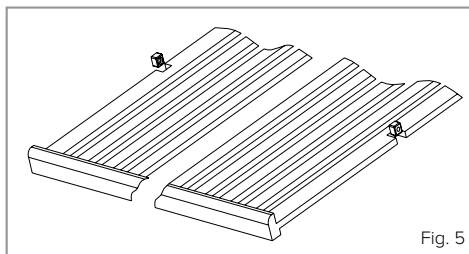

Fig. 5
- To remove a shelf from the wine cooler, first remove all bottles from the shelf, then pull the shelf forwards until the groove on either side of the shelf is level with the plastic peg on either side of the cabinet (as shown in fig 5). Then lift the shelf up and pull forwards.